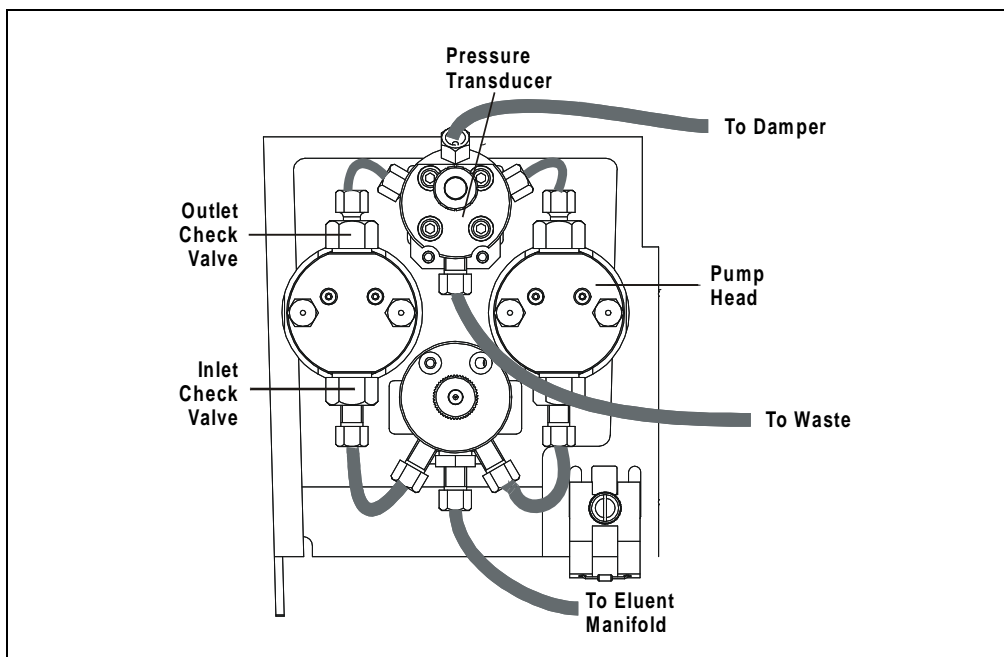

Figure 5-2. Pump Heads and Liquid Lines
3. Disconnect the tube fittings from the inlet and outlet check valve housings (see Figure 5-2).
2. Disconnect the tube fittings from the pressure transducer and the inlet check valve (see Figure 5-2).